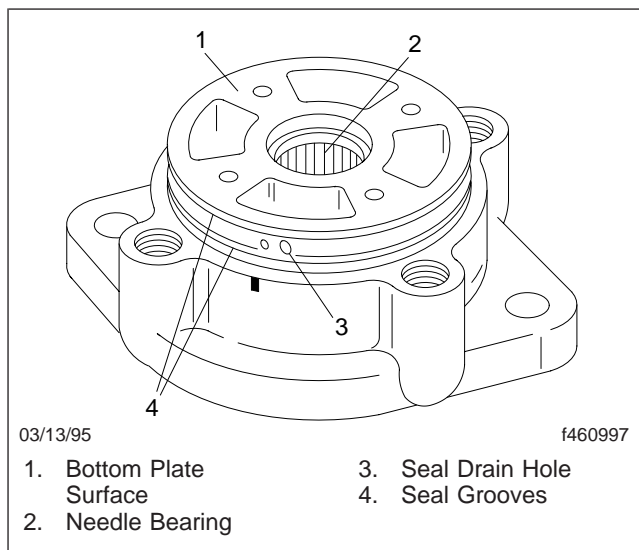

Fig. 19, Cover Inspection Areas
3. Inspect the cover for nicks in the O-ring seal grooves. Make sure that the seal drain hole is open, and that the seal bore is free of nicks and other damage. See Fig. 19.